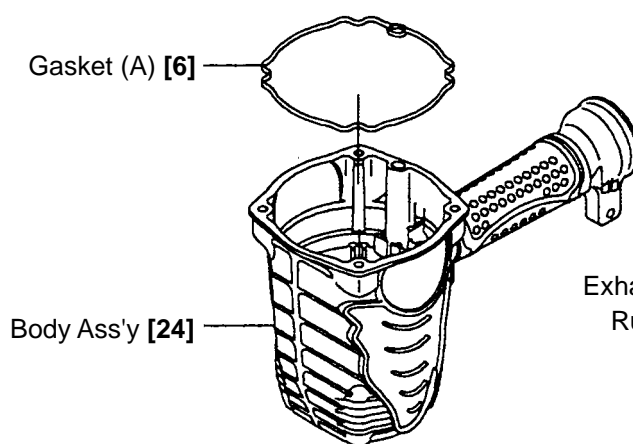
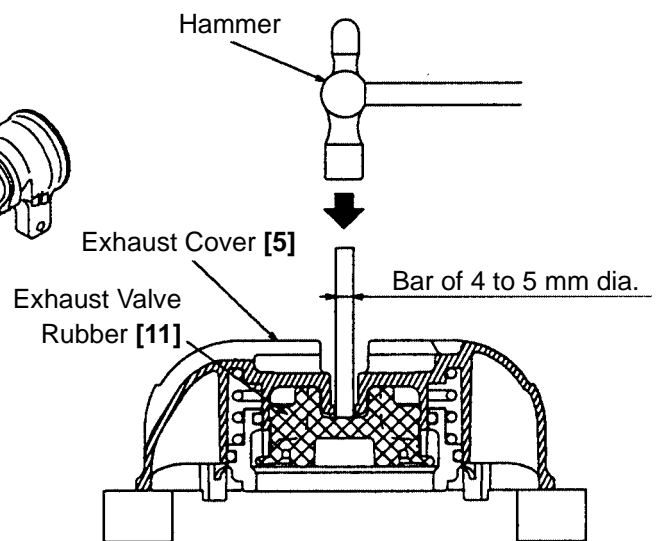

Fig. 11A Disassembly and reassembly of the exhaust cover, head valve, exhaust valve rubber, etc.
Fig. 11B
(See Fig. 11A and Fig. 11B.)
- As shown in Fig. 11B, insert a 4 to 5 mm dia. bar into the central hole in the Exhaust Cover [5] and force out the Exhaust Valve Rubber [11] with a hammer. Now, the parts forming the Exhaust Valve Rubber [11] can be taken out.